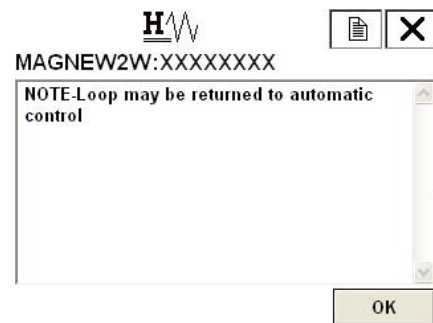

Fig. 7-85.
3. Note of caution will appear as shown in Fig. 7-85. To proceed, press F4(OK).